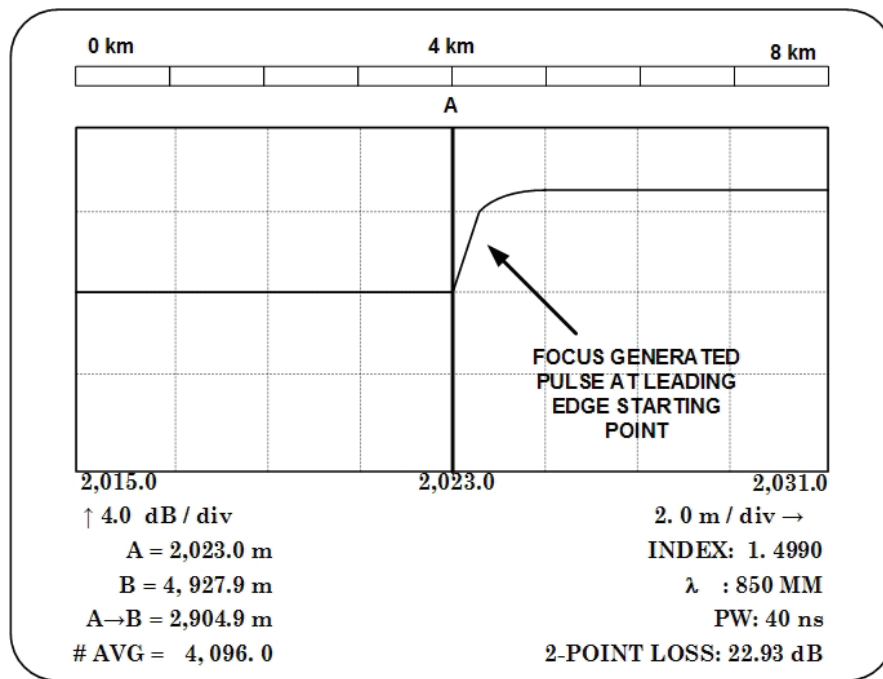

Figure 5. Example of cursor A on FOCUS GENERATED PULSE LEADING EDGE STARTING POINT (TD-260C).
- (10) Press **VERT EXP** pushbutton as necessary to display **4.0 dB/div** on TI.
(11) Adjust **CURSOR A** control as necessary to position cursor A on FOCUS GENERATED PULSE AT LEADING EDGE STARTING POINT (fig. 5).